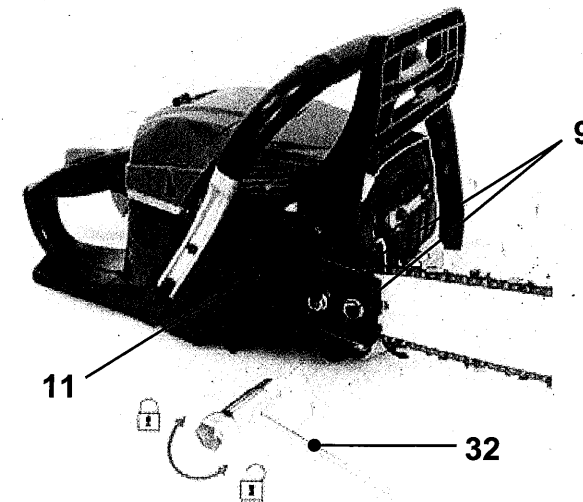

Fig. 7
10. Secure the cover (11) with the retaining nuts (9) (Fig. 7).